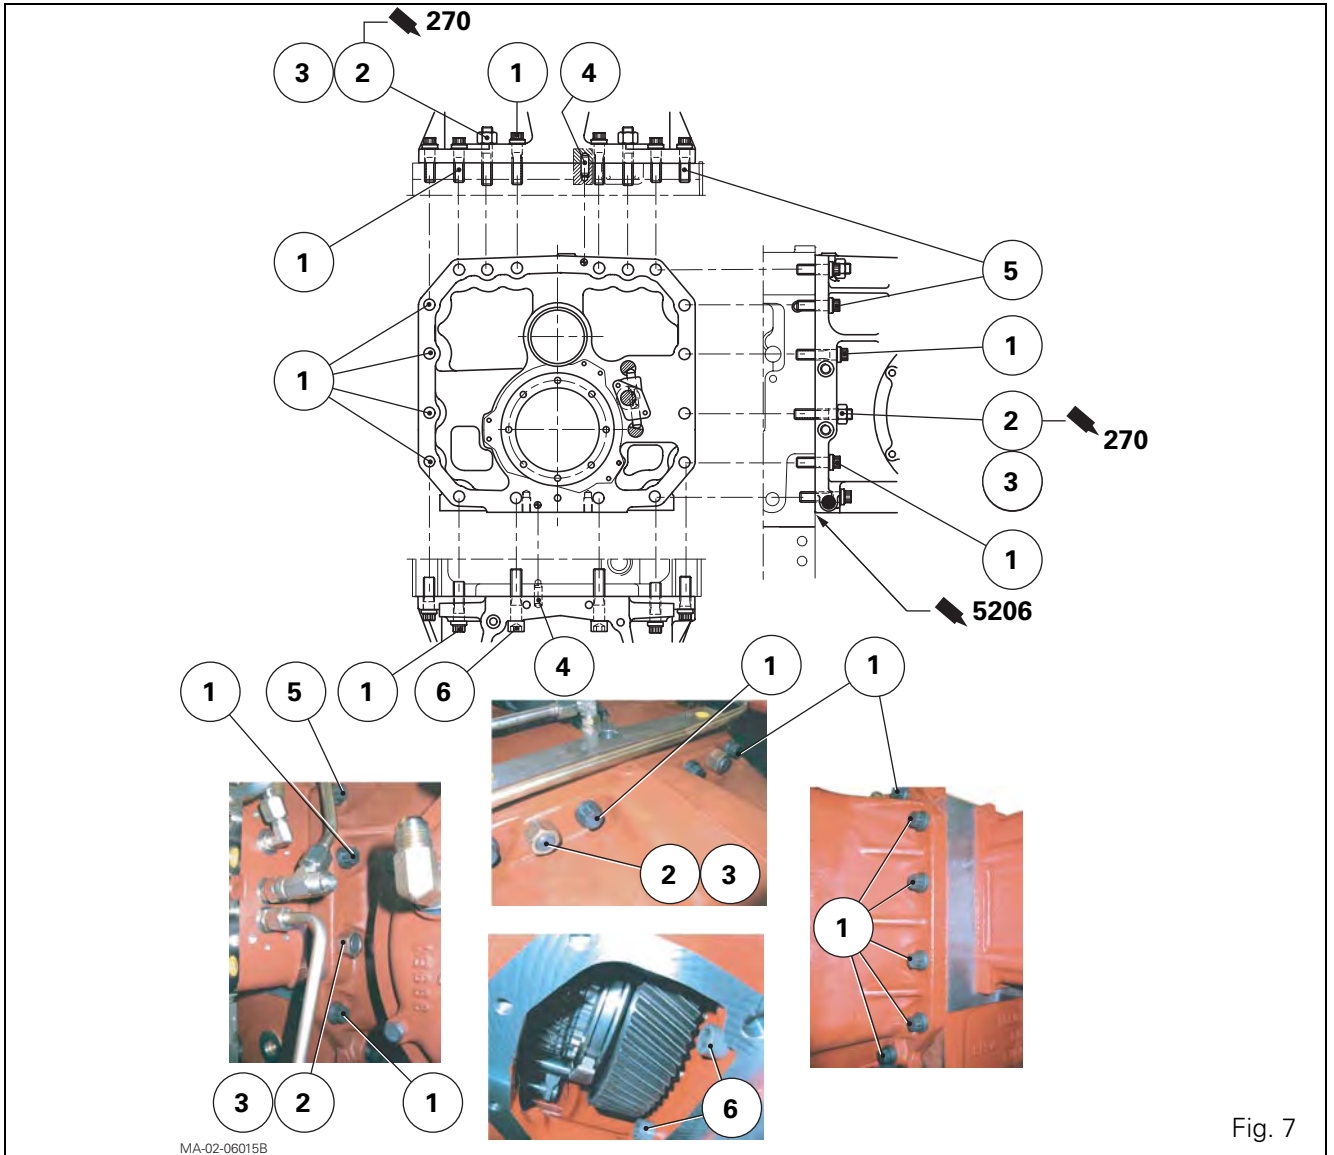

Fig. 7
27. Unscrew the two lower bolts (M16) (6) through the aperture in the cover located at the rear and on top of the gearbox (Fig. 7).
30. Unscrew the remaining bolts (1) (5) and nuts (3) securing the gearbox to the intermediate housing (Fig. 7).
NOTE: The thread of studs (2) (Fig. 7) fitted in the intermediate housing is to be lightly smeared with Loctite 270 or equivalent.
33. Check the presence of dowels (4) on the gearbox (Fig. 7). These dowels are to be force-fitted.
34. Check that the studs (2) are in good condition (Fig. 7) and are correctly fitted to the intermediate housing.
37. Smear the mating face of the intermediate housing with Loctite 5206 or equivalent (Fig. 7).
Tighten the screws and nuts as marked during removal (Fig. 7). Tighten them to a torque of: